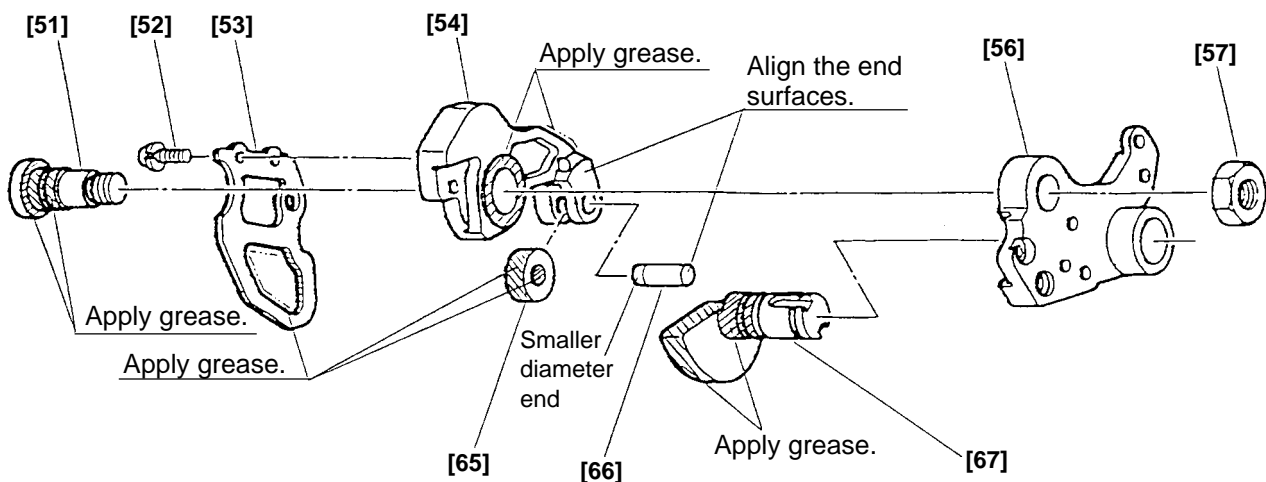

Fig. 37
(a) Lubrication (Fig. 37)
Also apply grease to the inner circumferences of the punched holes of the Return Plate [53] and the sliding portions of the Return Spring [32] and Bracket (A) [54]. Apply TUFREX 251 grease to the shafts, holes and surfaces indicated with diagonal lines and two-dot chain lines in Fig. 37. Carefully apply grease to the inner circumference of the hole of Roller (A) [65] until the grooves in the hole are completely greased.
Check the position of the smaller diameter end of the Roller Pin [66] and insert the Roller Pin [66] in the hole of Bracket (A) [54] in the proper direction as shown in Fig. 37. Align Roller (A) [65] with the hole of Bracket (A) [54] and press-fit the Roller Pin [66] until it becomes flush with the end surface of Bracket (A) [54] (Fig. 37).
Put Bolt (A) [51] through the hole of Bracket (A) [54] and press-fit it in Bracket (B) [56] completely (Fig. 37). At this time, a clearance is made between Bracket (A) [54] and Bracket (B) [56] due to the dimensional tolerance.